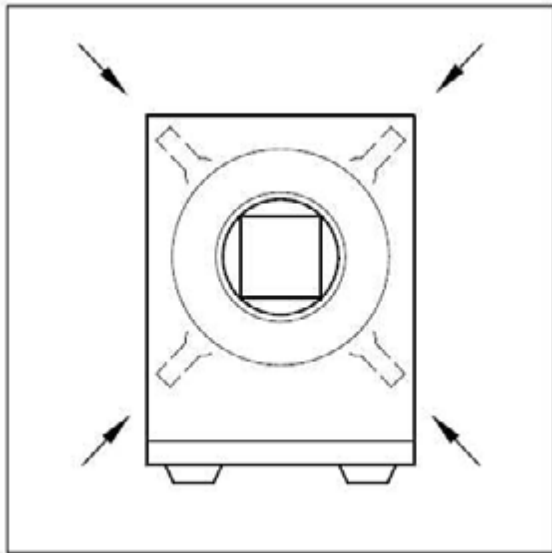
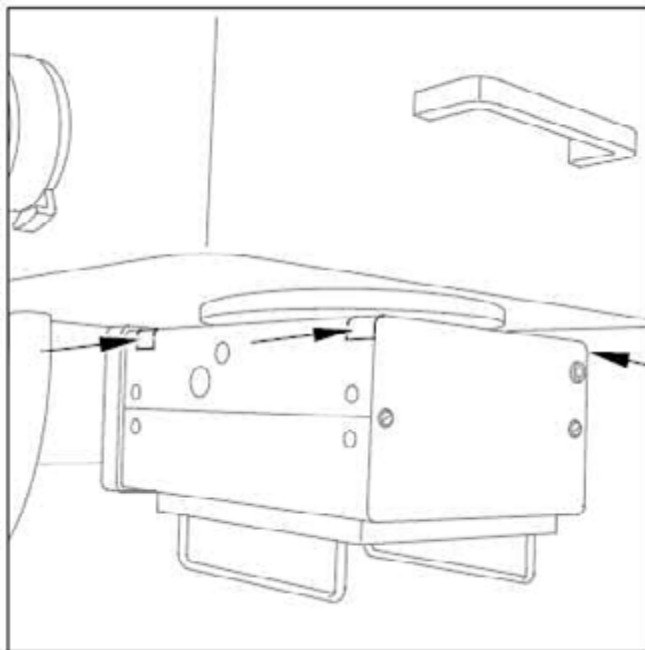

Fig. 54: collimator_movement_1
Fig. 55: collimator_movement_2
- If the deviation is higher, loosen the 4 Allen screws slightly (arrows/Fig. 54 / p. 101) and (arrows/Fig. 55 / p. 101) and move the collimator accordingly.
Then, tighten the screws on the collimator (torque Nom: **0.75 Nm**, tolerance: $\pm 10\%$) (arrows/Fig. 54 / p. 101) and (arrows/Fig. 55 / p. 101) again.